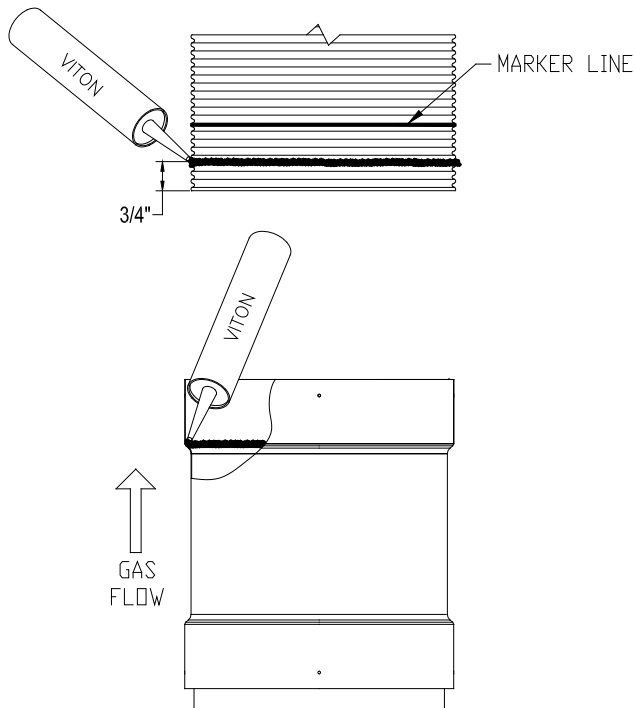

Figure 18 -SecureSeal Flex Viton- caulking
- 2.1. Add a bead of Viton® caulking (resistance to condensate) all around inside the adapter on the beginning of the flare. Add another bead of Viton® caulking all around the outside of the flexible liner at 3/4" from the edge (Figure 18).